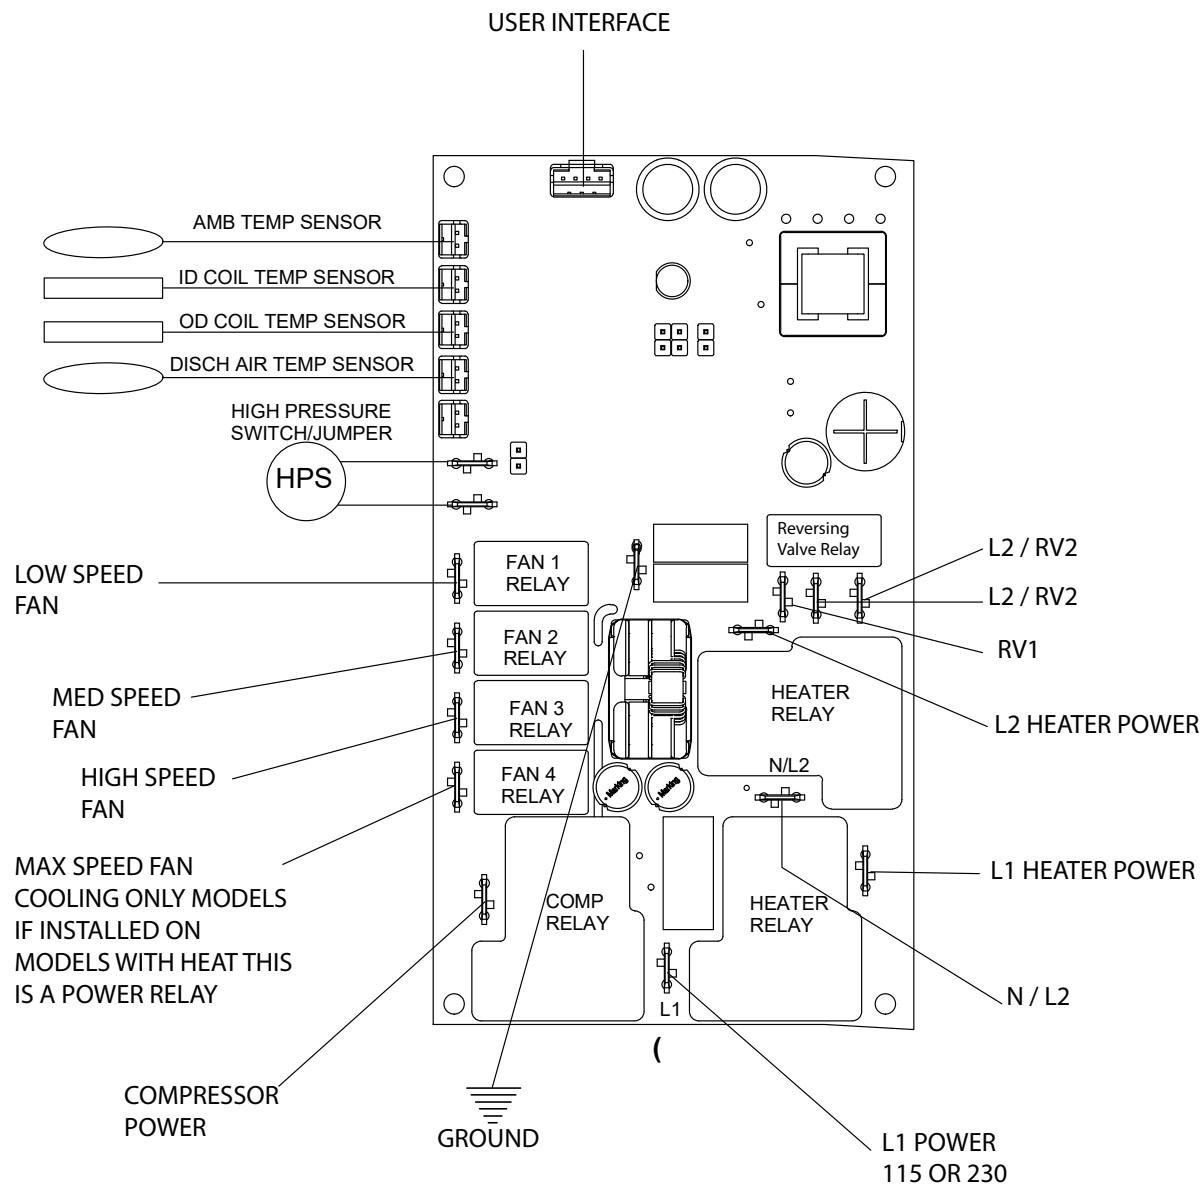

Figure 711 (Electronic Control Board Identification)
1. Make sure the unit has the proper voltage and that it is turned on. Check power at Terminals L1 and L2. (refer to Electronic Control Board Identification, Figure 711)
3. Using a voltmeter, check the outer pins on the user interface port of the electronic control board. There should be 24VDC. (refer to Electronic Control Board Identification, Fig 711)
2. Locate thermistor plug and disconnect from Control Board. (refer to Control Board Identification, Fig 711)